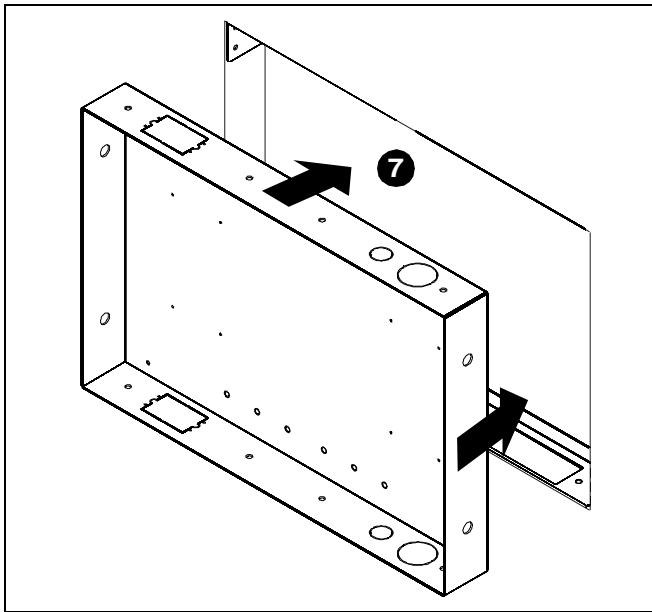

Figure 7
7. Orient PAC-501 enclosure following the installation instructions provided with the PAC-501 and slide enclosure into opening between upper and lower brackets (A). (See Figure 7)